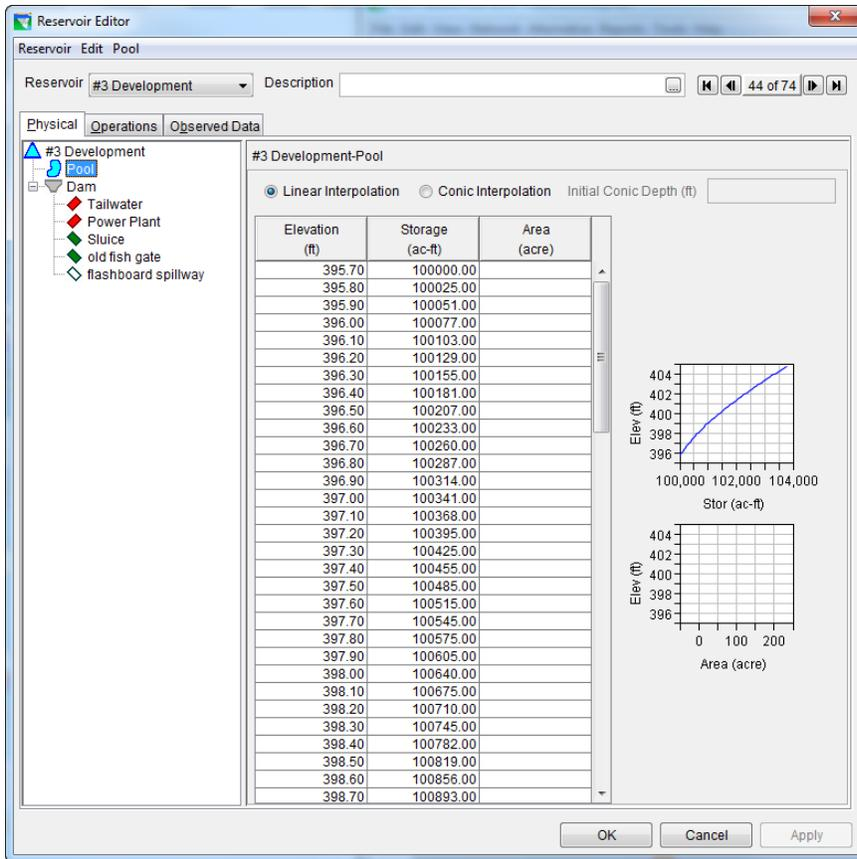
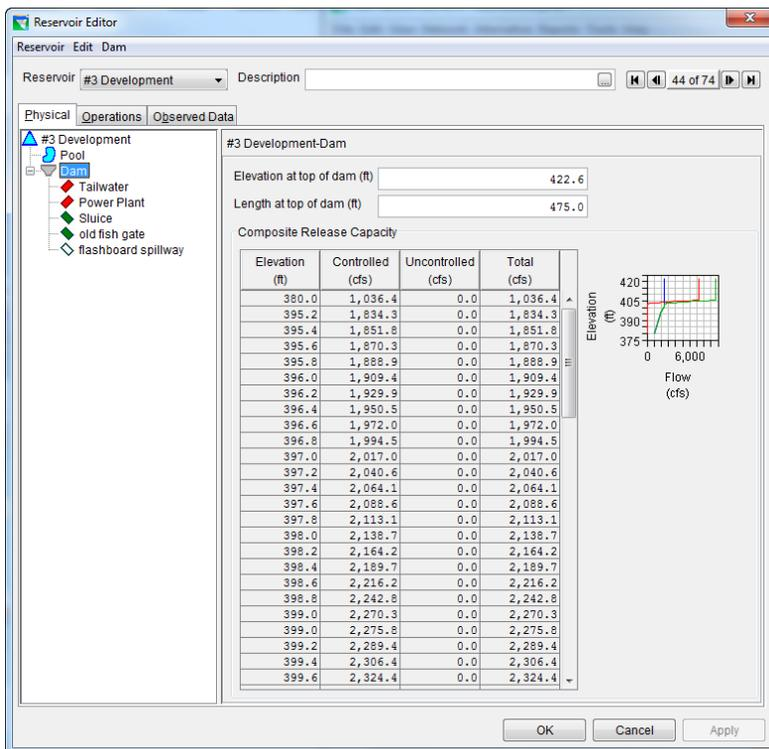

Figure 3: Reservoir Editor: Physical Tab -- Pool
Figure 4: Reservoir Editor: Physical Tab -- Dam
The physical characteristics of the reservoir are separated between the Pool and the Dam in the HEC-ResSim model. The elevation-storage-area defines the pool as shown in Figure 330. The dam consists of four types of outlets: (1) controlled sluice, (2) controlled old fish gate, (3) uncontrolled flashboard spillway, and (4) power plant as shown in Figure 4.